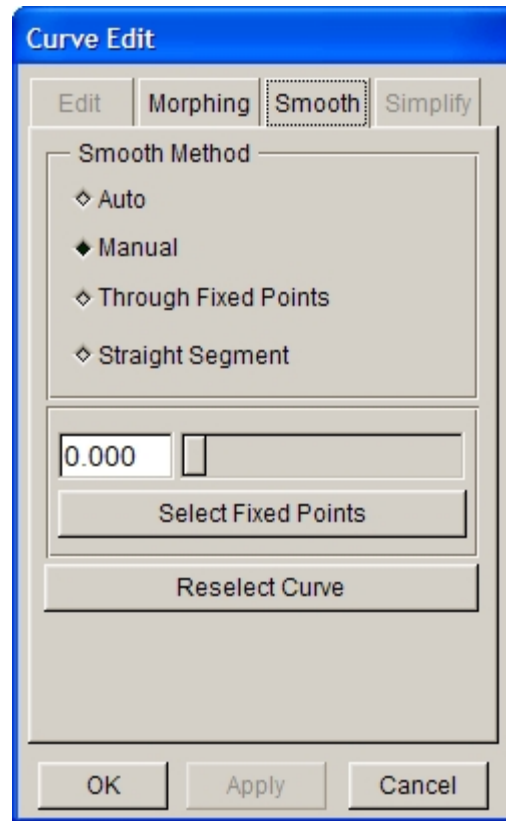

Figure 6.1.24 Curve Edit dialog box
2. After two points are selected, the CURVE EDIT dialog box as illustrated in Figure 6.1.24 is